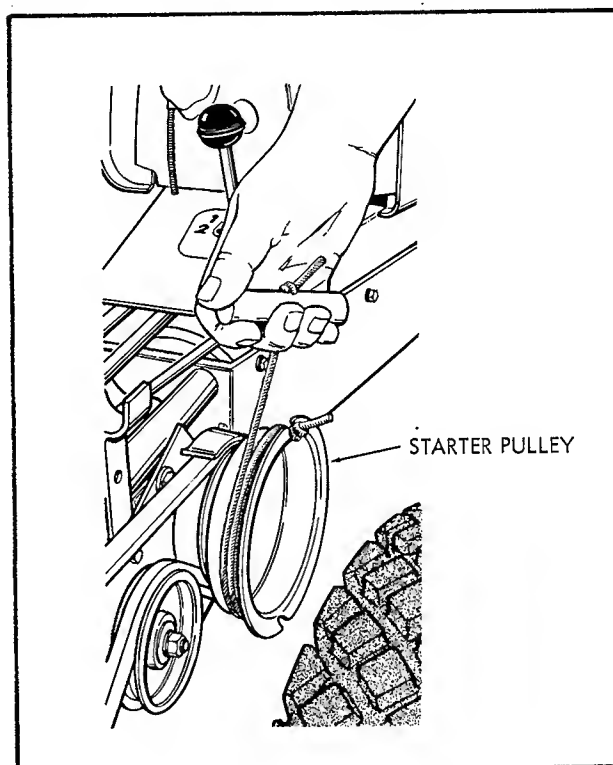

Fig. 14
5. Engage starter rope knot in groove on starter pulley and wind rope around pulley in a clockwise direction. See figure 14. Pull starter rope upwards, rapidly and firmly to start engine. As engine warms up, return choke lever to "RUN" position.